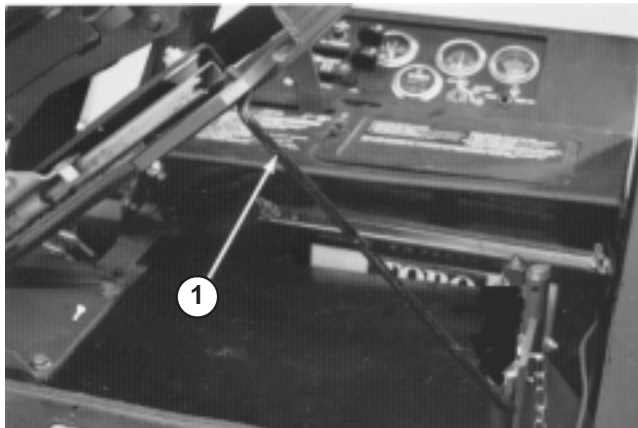

Figure 7
4. Hold seat up with seat support rod (Fig. 7).
Note: When mounting seat suspension, use forward set of mounting holes for a shorter operator, as shown in figure 7, or rear set for a taller operator.
6. Hold seat up with seat support rod (Fig. 7).